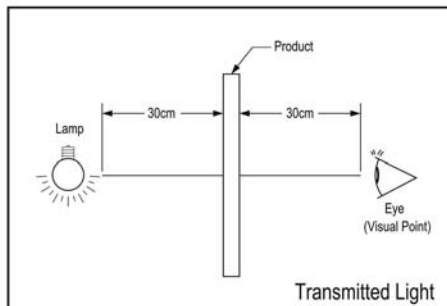
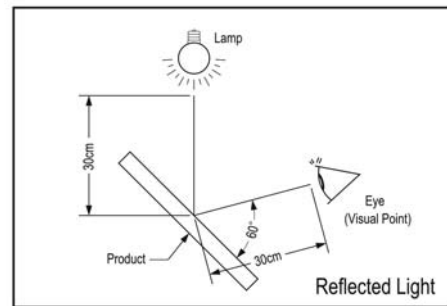

Figure 11-1
Figure 11-2
(1) 18W(1000 ± 500Lux) fluorescent luminant lamp is used for appearance inspection. Detail settings are shown in (Fig 11-1) and (Fig 11-2).
[(1) 檢測始用之燈光為 18W(1000±500Lux)白熾燈光，詳細的擺設方式，請參考圖(Fig11-1), (Fig11-2)]
(2) Minor impurities outside active area are acceptable unless their existence affect electrical functions.